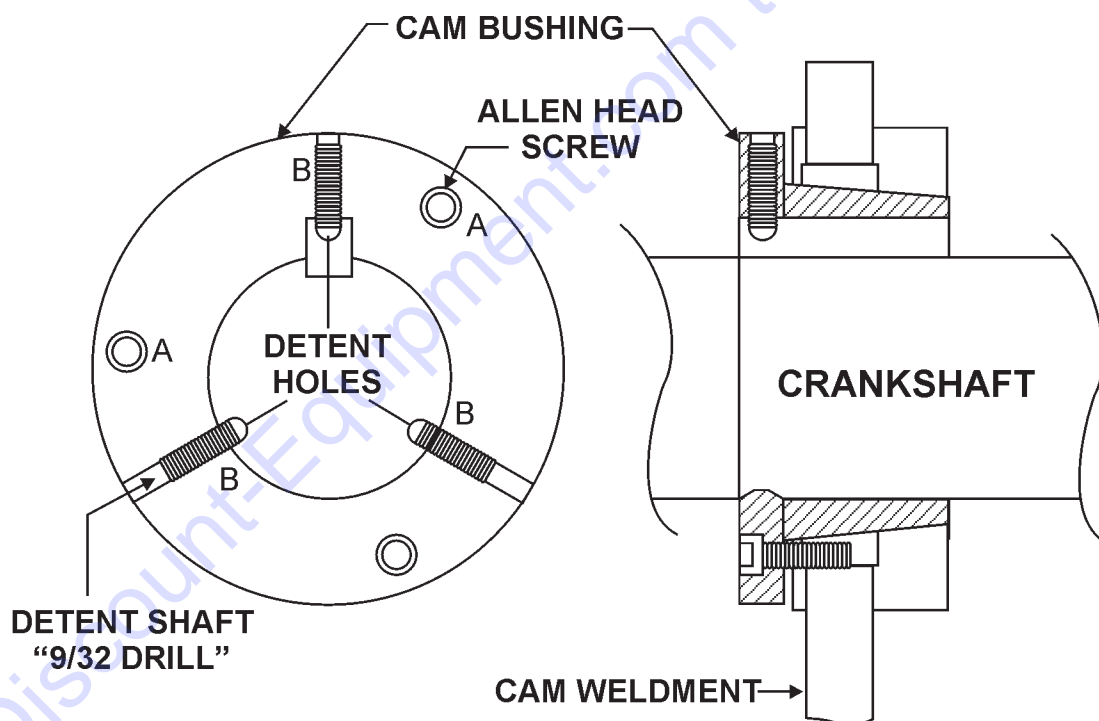

Figure 28. Detent Holes
1. After the bearing assembly has been installed, remove the three “dog type” allen head set screws (B) to allow detents to be drilled. See Figure 28 below.